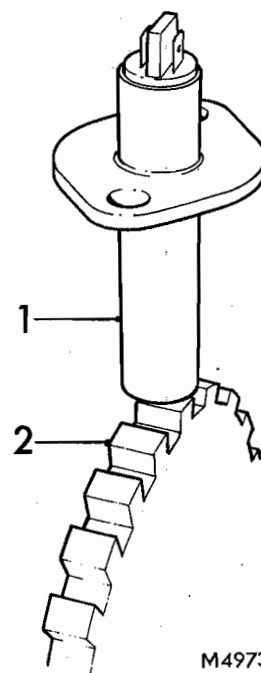

FIG. 2. PERCEPTION HEAD
## 2. Perception Head, Fig 2
**4. Electro-Pneumatic Valve Unit, Fig. 2**